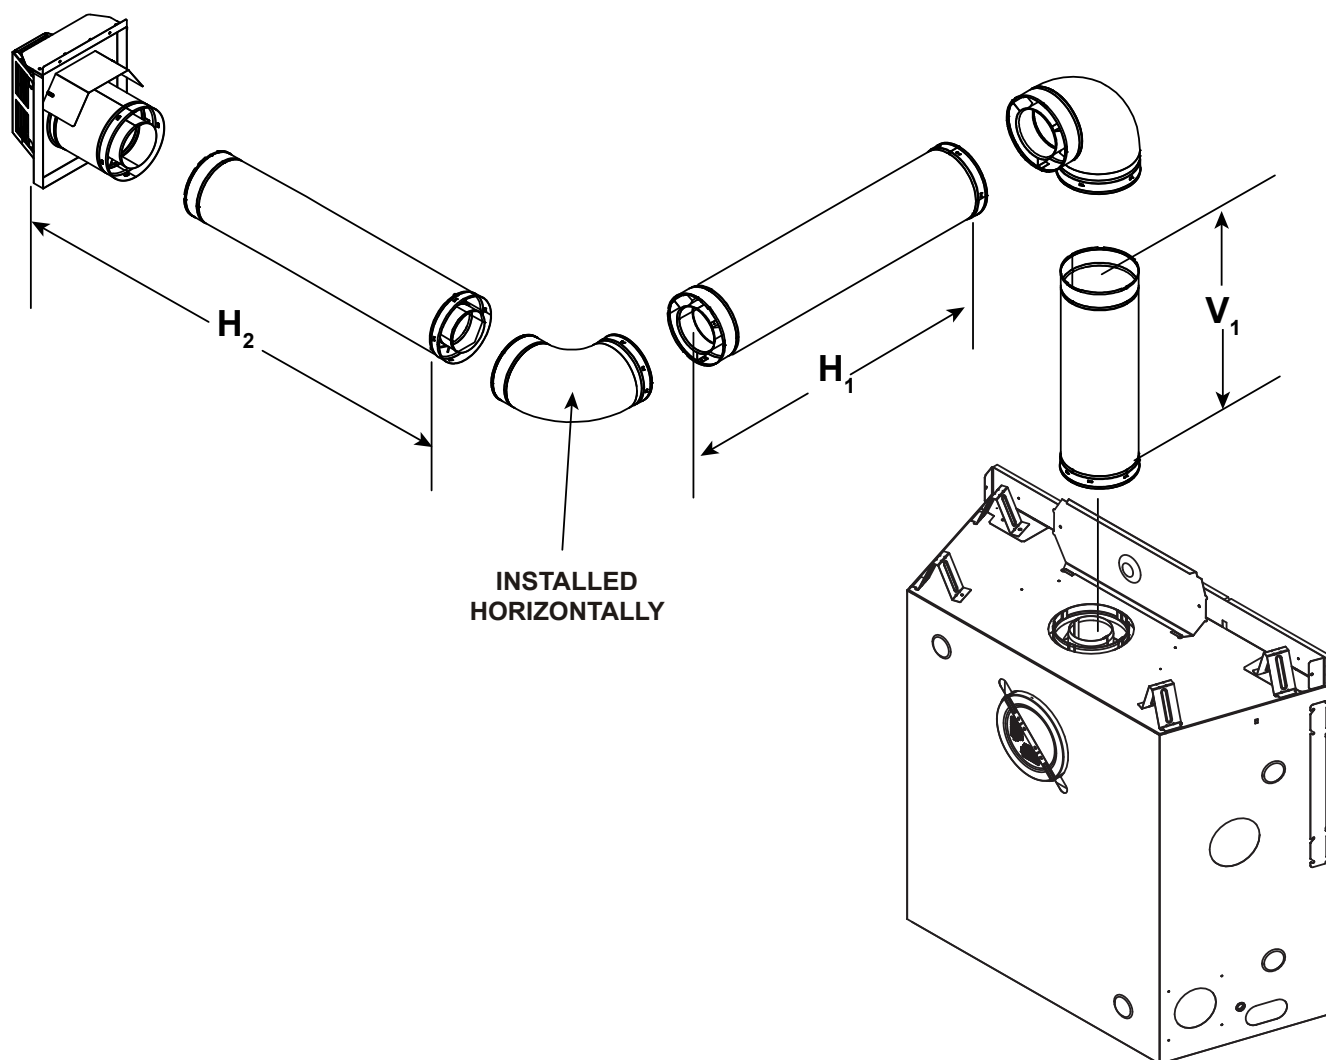

Figure 4.13
- A maximum of three 90° elbows (or six 45° elbows) may be used in any vent configuration. Some elbows may be installed horizontally. See Figure 4.13.